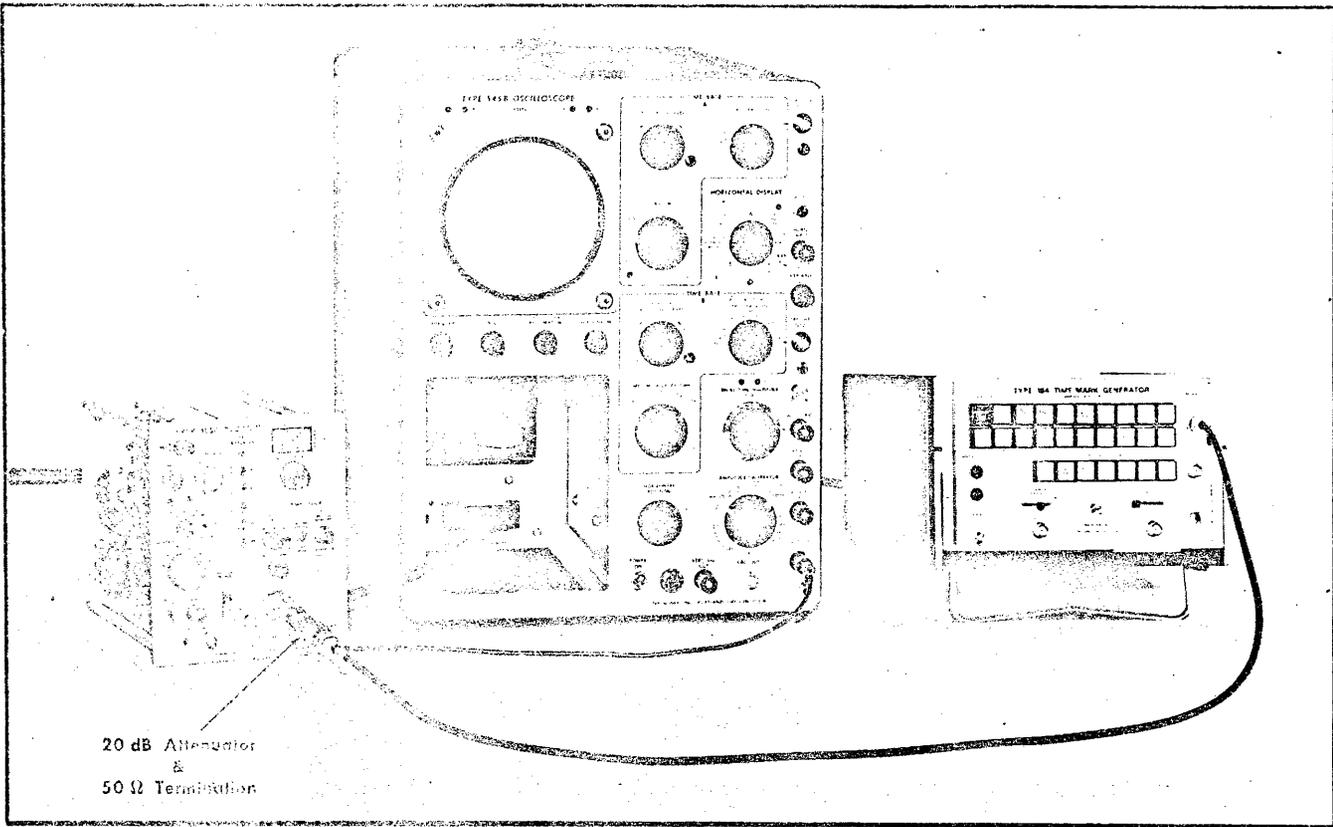

Fig. 6-23. Equipment setup for checking incidental FM (step 15).
- a. Equipment setup is shown in Fig. 6-23.